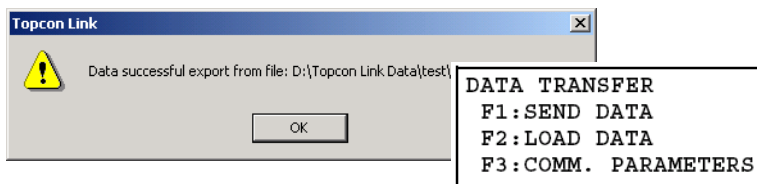

Figure B-7. Successful Export to the Total Station
12. After a successful export, Topcon Link will display a “successful export” message and the Total Station will return to the Data Transfer menu (Figure B-7).